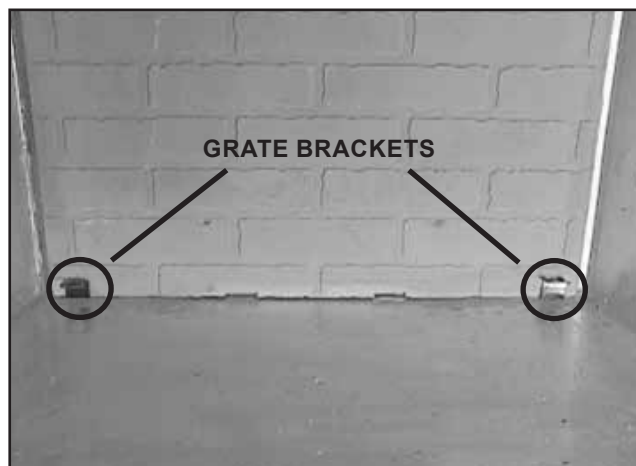

Figure 8.3 Back Refractory with Grate Brackets in Place
- Place grate brackets in outer two notches of refractory. See Figure 8.3.